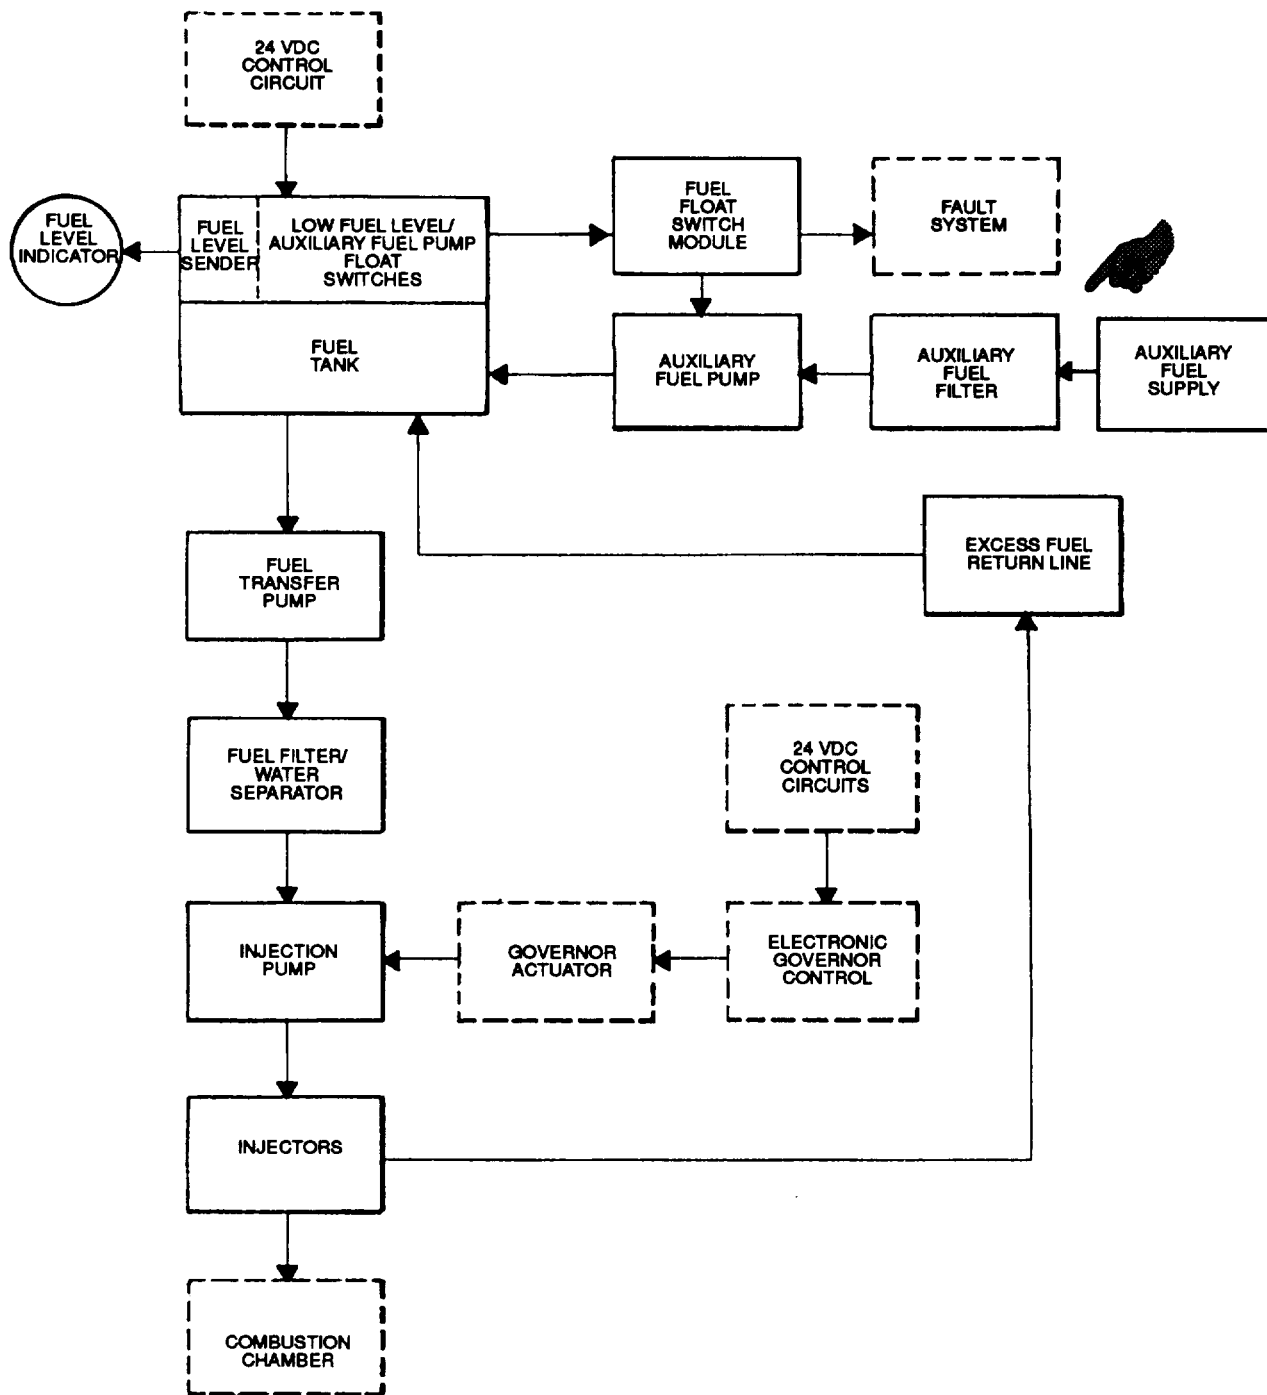

FIGURE 1-3. Generator Set Fuel System
1.12.2.1 The Fuel System (FIGURE 1-3) includes a primary subsystem and an auxiliary subsystem.